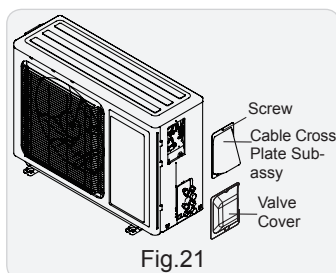

Fig.21
- (1) Remove the screw on the right handle of outdoor unit and then remove the handle. (As show in Fig.21)
- (2) Remove the big hanging ring.
- (3) Remove the protective rubber plug of the valve.